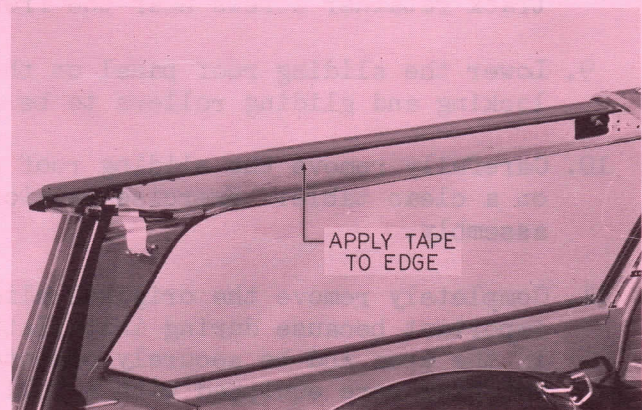

Fig. 5
16. Remove both of the rear roof panel (parallel to sliding roof) moldings and apply a strip of electrician's plastic tape over the full length of the pinch-welded area. (See Fig. 5.) Install the original moldings. NOTE - The rear of the body roof panel trim molding retainers must be sealed with a hardening type of sealer. The exposed ends of the nine retainers and the holes and notches around them must be sealed to prevent water from entering the clearance holes of the molding retainers and passing between the body roof panel and reinforcement. Water which is seen at the ends of this reinforcement is usually the result of water entering around the molding retainers and clearance holes.